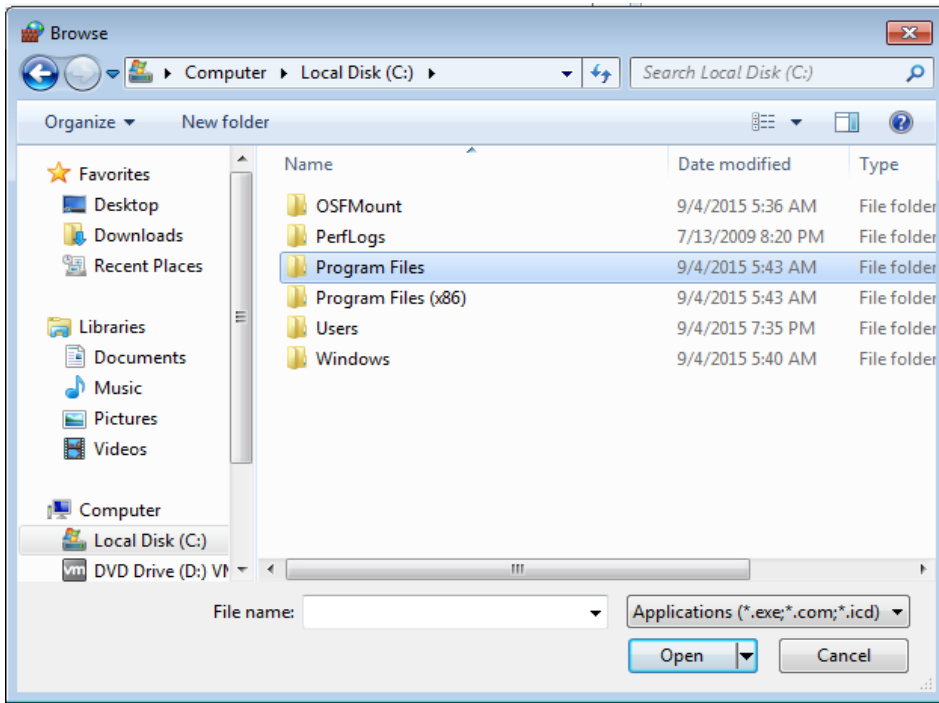

Fig.1.18 Local Disk C
(6) Click “Browse” and open Program Files folder in C (see Fig.1.18).